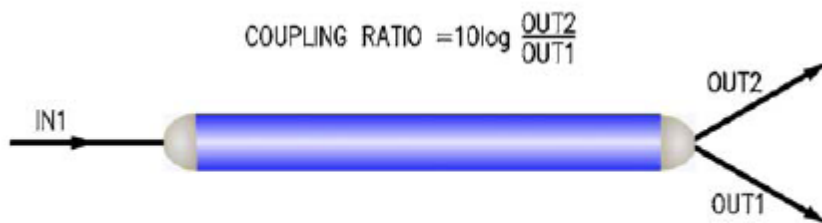

fig. 4.7 Coupling Ratio
- the coupling ratio (fig. 4.7), indicating the percentage of optical power on the output ports in respect to the total power present on all output ports